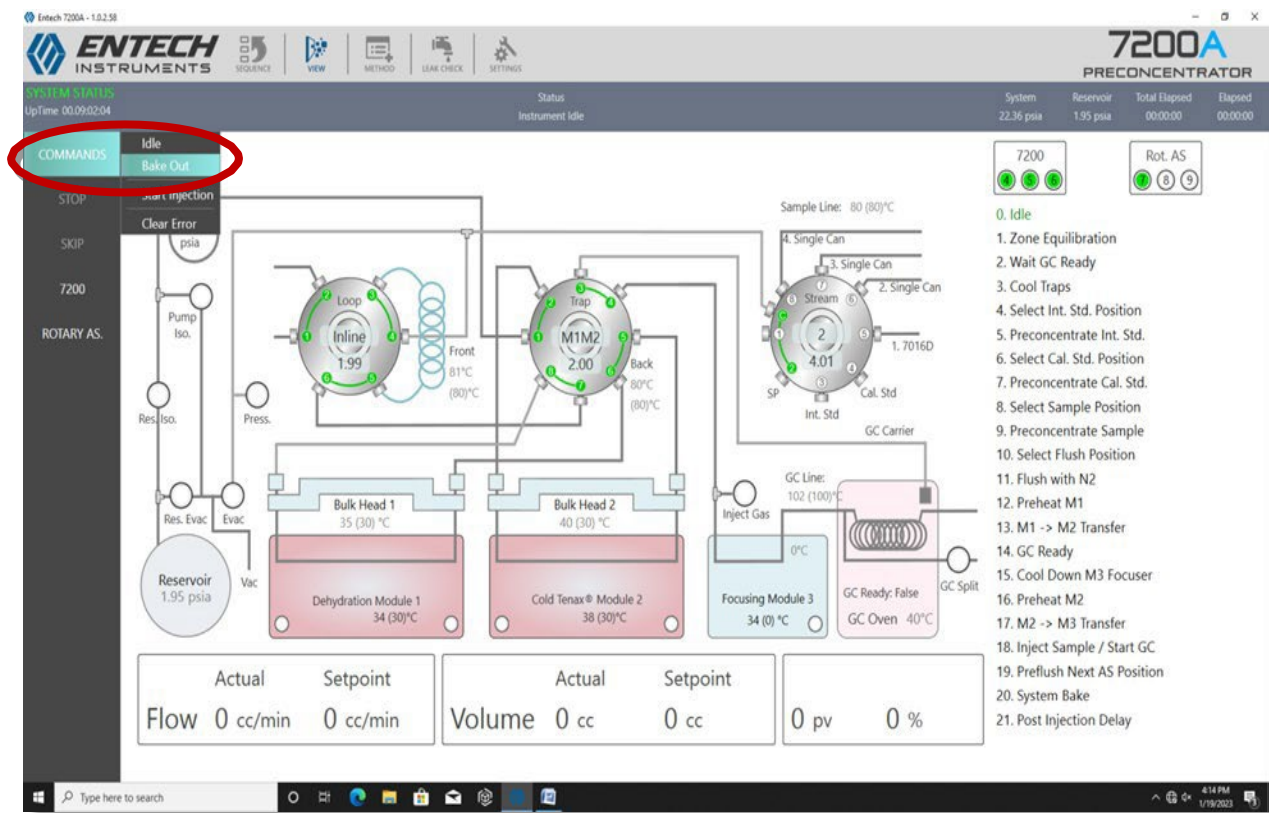

Figure 15. Initiating bake mode.
1. In the **View** screen, click the **Command** button and select **Bake Out** on the Entech 7200A toolbar (Figure 15). The Entech system will initiate the bake mode, which lasts 10 min.